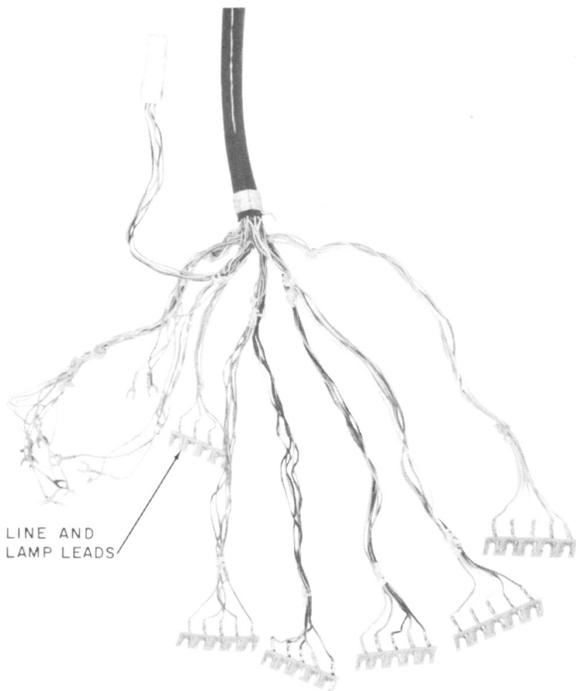

Fig. 1—Mounting Cord Used With 636A Key
2.08 Replace mounting cords as used with 636A key (Fig. 1) as follows: